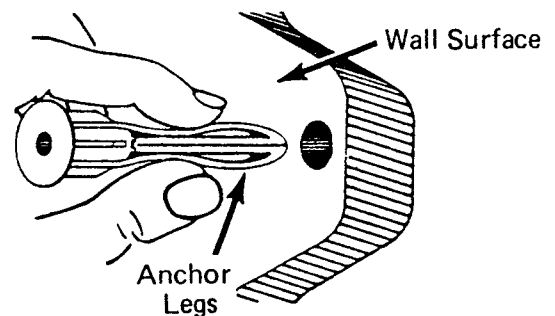

FIGURE 3 — INSTALLING TOGGLER
01.21 Press the anchor legs of the togglers together, and insert them into the anchoring holes (Figure 3) until their neck flanges are flush